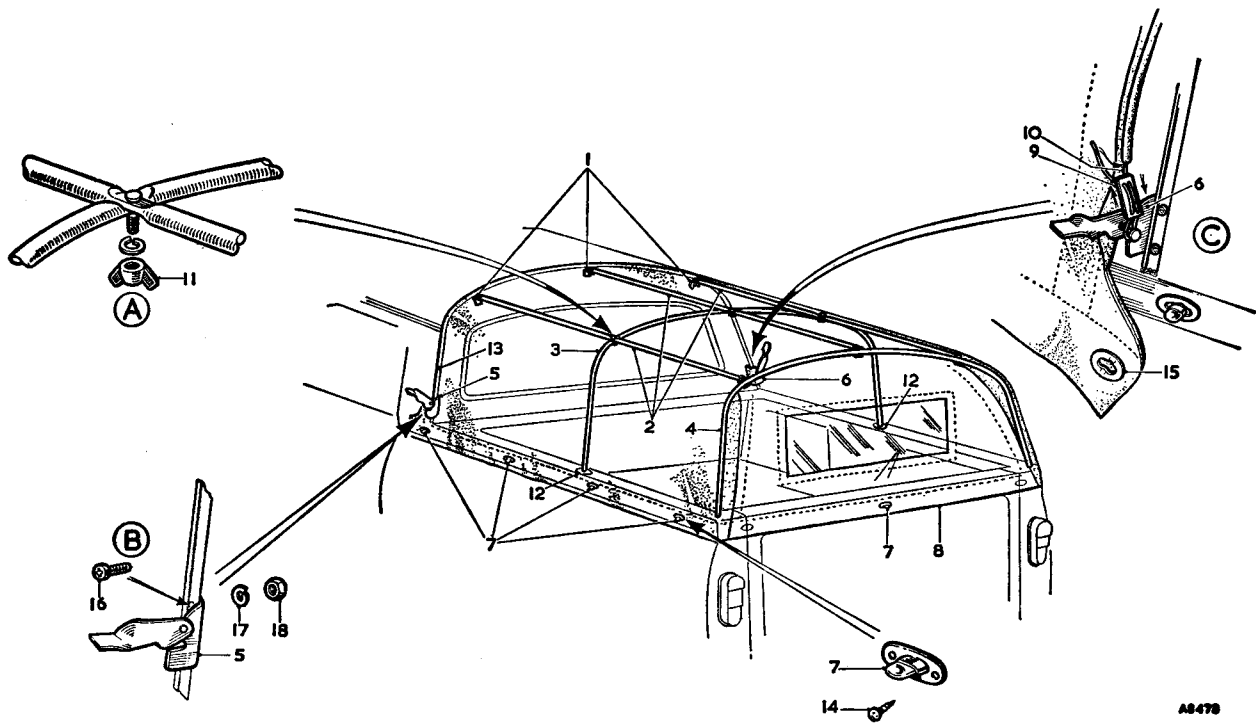

Fig. R.3
- (1) Fit the rear hoop ends into the sockets at either side of the rear end of the body. Ensure that the three brackets attached to the top of the hoop face forwards.
- (2) Fit the centre hoop ends into the sockets at the centre position.
- (3) Engage the studs of one of the struts in the hole in the centre bracket at the top of the rear hoop, the centre hole pierced in the top of the centre hoop, and the hole in the centre bracket attached to the rear of the cab at the top (see Fig. R.3). Fit a spring washer and wing nut to each stud and tighten fully (inset (A) of Fig. R.3).
- (4) Repeat this operation with the other two struts, using the fixing holes in the brackets and centre hoop either side of the central fixing points.
- (5) Place the R.H. lever bracket assembly on the rear face of the channel fixed around the rear of the cab with the drilled face of the bracket against the channel, its lower edge approximately in line with the top edge of the seam (body cross-member to cab). The lever attached to the bracket must face outwards and the lever pin must face forwards.
drilled face of the bracket onto the body and drill two holes $\frac{11}{16}$ in. (5.16 mm.) diameter. Fix the bracket to the channel with two of the No. 10 pan-head screws, nuts, and spring washers, the heads of the screws facing outwards (see inset (B) of Fig. R.3). Repeat this operation with the L.H. bracket on the L.H. side of the channel.
- (6) Lay the tilt cover, smooth face upwards, over the tilt frame with the fixing cable at the front.
from the bottom face of the plate, and returns down through the corresponding hole at the top. By adjusting the position of the cable in the plate the length of the cable can be varied as necessary (see inset [c] of Fig. R.3).